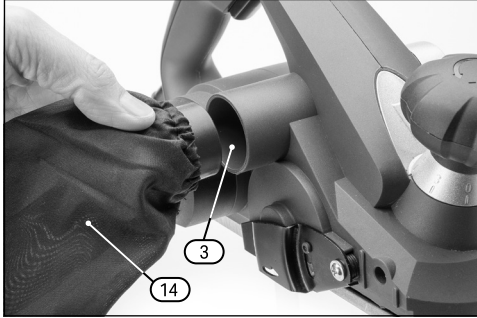

Fig. 1
6.1 Installing the Dust Collector (Fig.1)
- Insert the dust collector bag (14) nozzle into the dust extraction outlet (3) until secure.